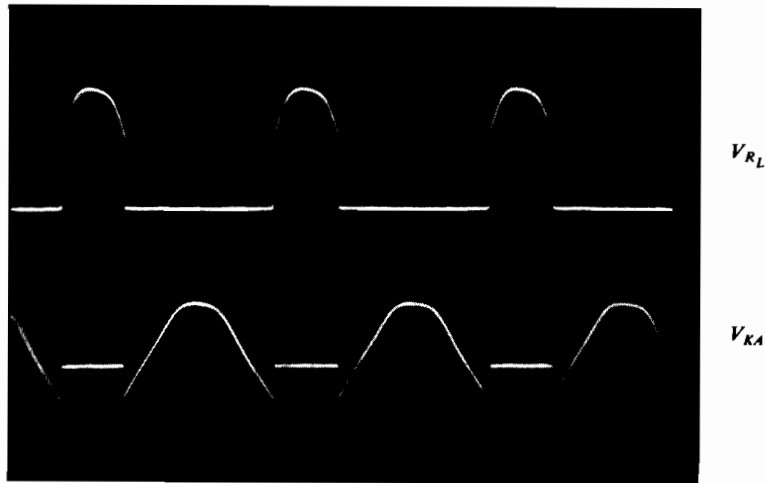

FIGURE 28-3
10. Apply power to the breadboard. On Channels 1 and 2 you should see approximately three cycles of the voltage across the 2.2-k Ω load resistor and a cathode-to-anode voltage waveform like that shown in Figure 28-3. Because of the manner in